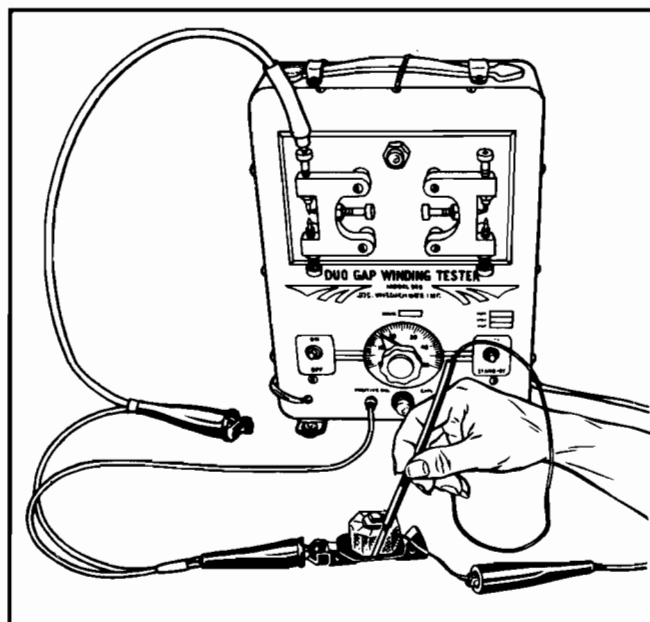

Figure No. 19—Testing Outside Insulation
11. Inspect the coil for burned holes through the outside insulation, or for evidence that the spark has been leaking to the ground from the terminal where the spark plug lead is connected. (See Figure No. 19.)